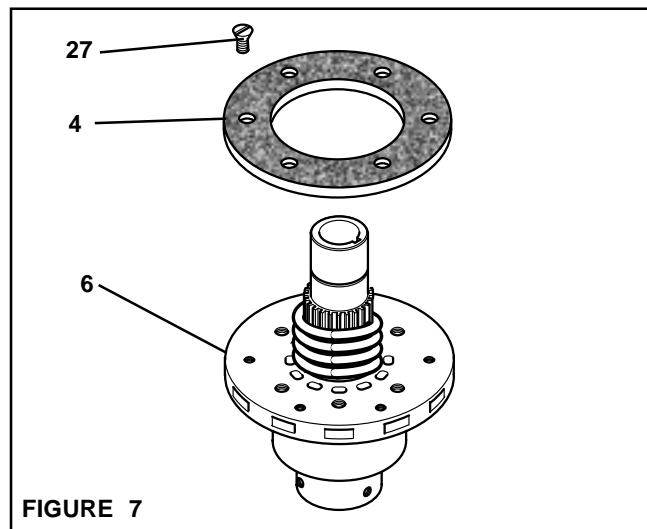

FIGURE 7
8. Remove the six Flat Head Machine Screws (Item 27) that secure the Friction Facing (Item 4) to the Pilot Mount Drive Disc (Item 6) (See Figure 7).
9. Remove the old Friction Facing (Item 4) (See Figure 7).
10. Using six new Flat Head Machine Screws (Item 27), secure the new Friction Facing (Item 4) to the Pilot Mount Drive Disc (Item 6) (See Figure 7).
11. Tighten the six Flat Head Machine Screws (Item 27) to the recommended torque (See Figure 7 and Table 1).